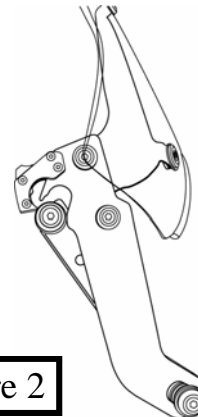

Figure 2
5. Slip the windshield mounting plates and windshield onto the upper and lower bushing assemblies, (see figure 2 and 3) and secure the left and right side locking mechanism.